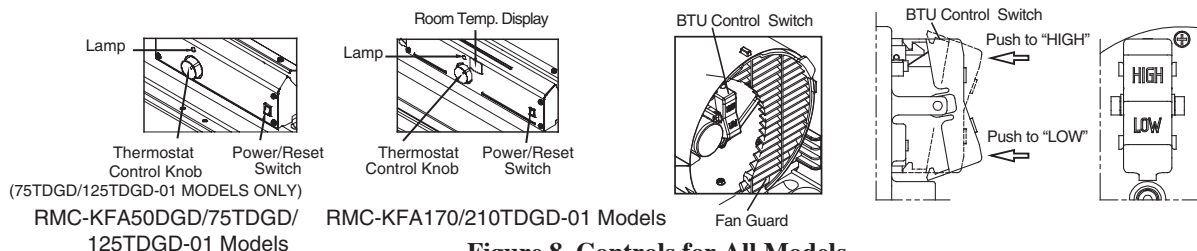

Figure 8. Controls for All Models
5. Push “BTU control Switch” to desired level “High or LOW” (See Figure 8.)